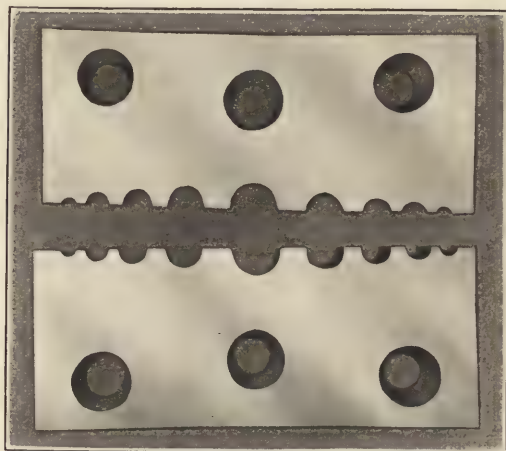
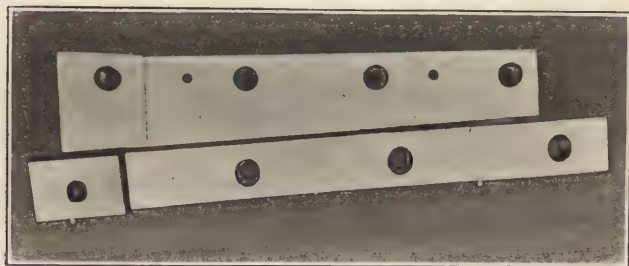

Fig. 23. Shears for Cutting Round Stock.
Fig. 24. 15" Shear Blades.
**Shear Blades.**—In Fig. 23 is shown a pair of shears for cutting off round steel in sizes from  $\frac{1}{8}$  inch to  $\frac{1}{2}$  inch. They have cut drill rod, tool steel, machine steel, cold rolled steel, and any pieces that came along for two years up to the time of photographing, and were still in good condition. They were hardened similar to the punch and die mentioned. Also in Fig. 24 is a pair of long shears, 15 inches long, used for shearing heavy angle iron. These shears were in use the same length of time as the other tools mentioned, and they look none the worse for having sheared thousands of pieces of angle iron from  $\frac{1}{4}$  inch